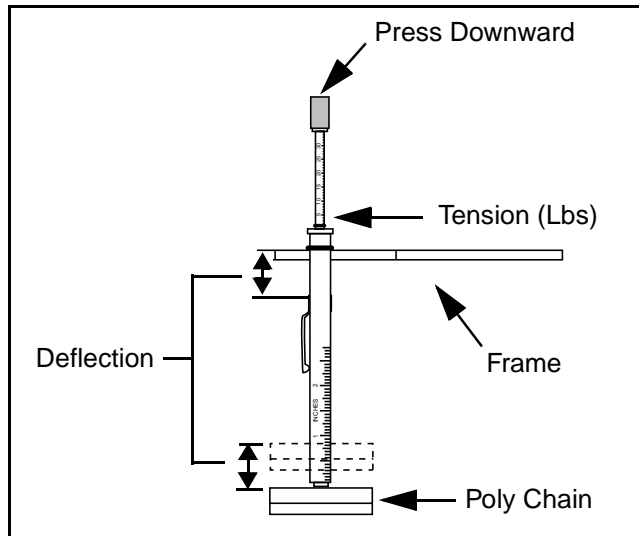

Figure 6 - 29 Testing Poly Chain Belts
- 6) Set the large O-ring 1/4" (6.4 mm) above the mark. (Figure 6 - 25)